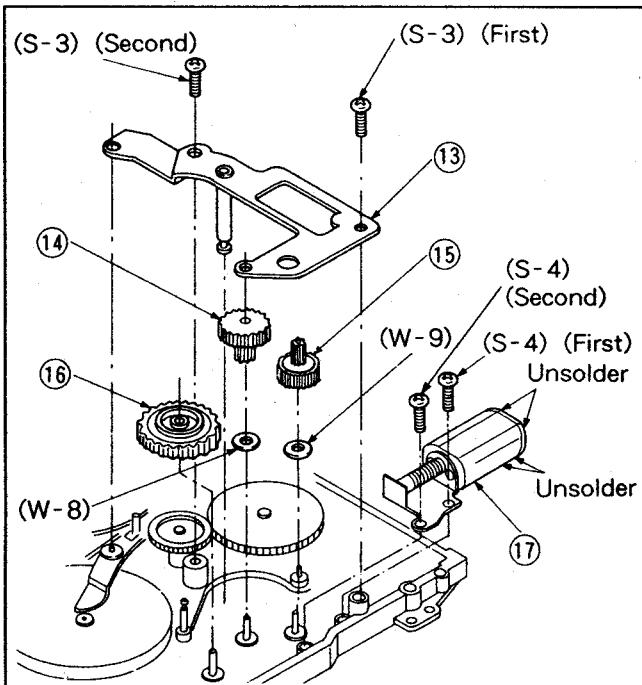

Fig. M8
13) Remove pulley plate unit. See Fig. M8.